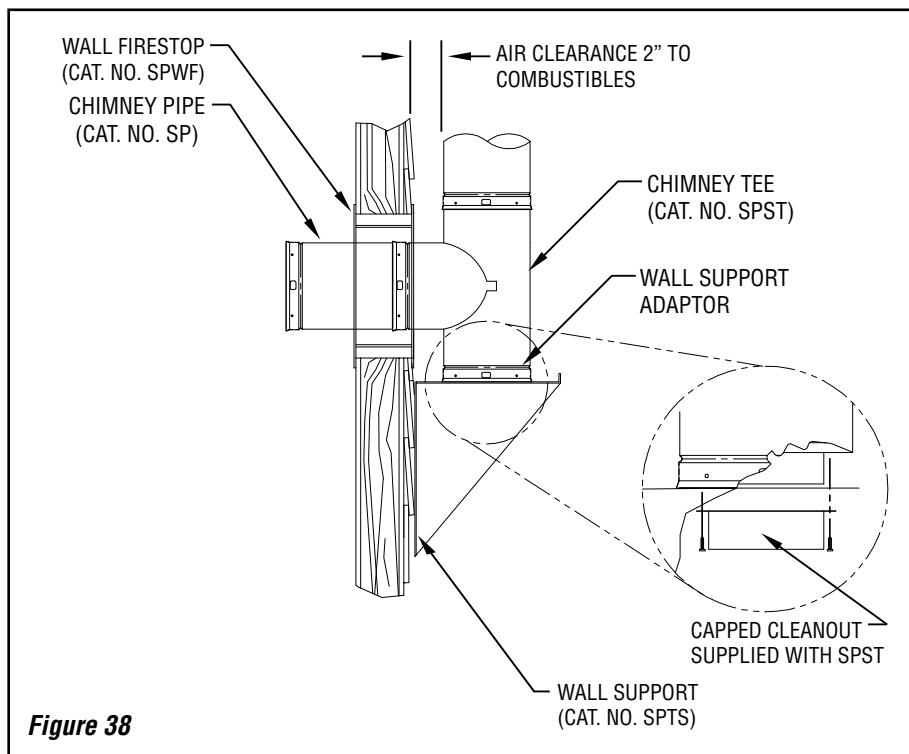

Figure 38
3. A 2-piece wall firestop (SPWF) must be installed in the framed opening from outside. The stainless portion is first installed from the outside of the opening. Push the remaining half through the opening from the inside until the plate is flush with stud. Use four (4) # 10 x 2-1/2" wood screws to attach opening (see **Figure 38**). Seal the outside plate with RTV sealant or similar.